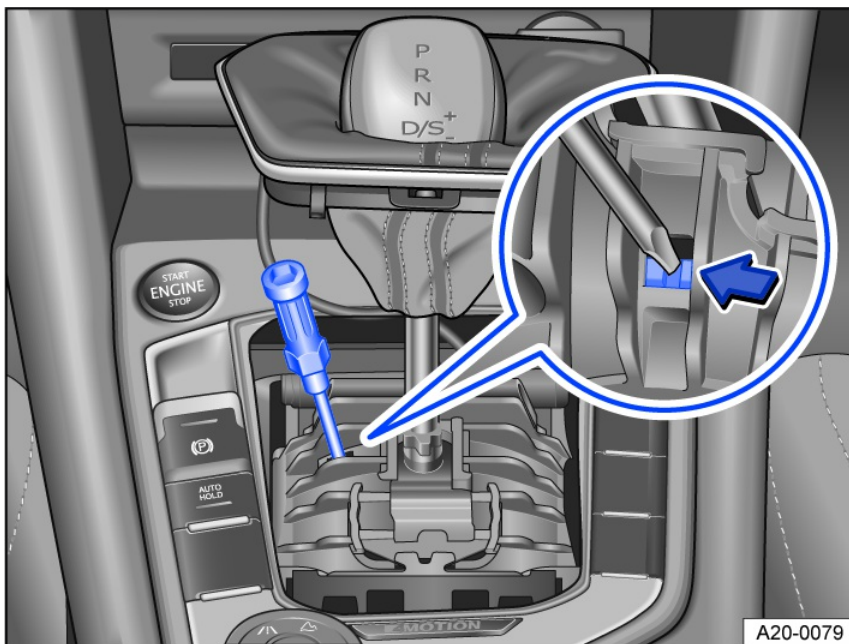
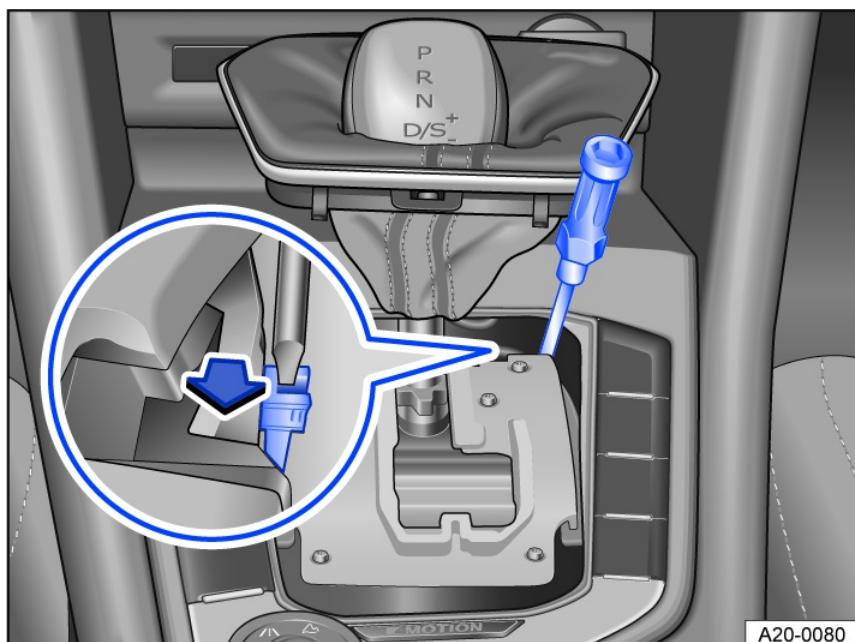

Fig. 94 Manually release the Automatic Shift Lock (ASL) (variant 1).
Fig. 95 Manually release the Automatic Shift Lock (ASL) (variant 2).
3. Pull the cover near the selector lever boot upward carefully with the wires connected *fig. 94* or *fig. 95*.
1. Press the release lever in the direction of the *fig. 94* or *fig. 95* arrow and hold in this position.